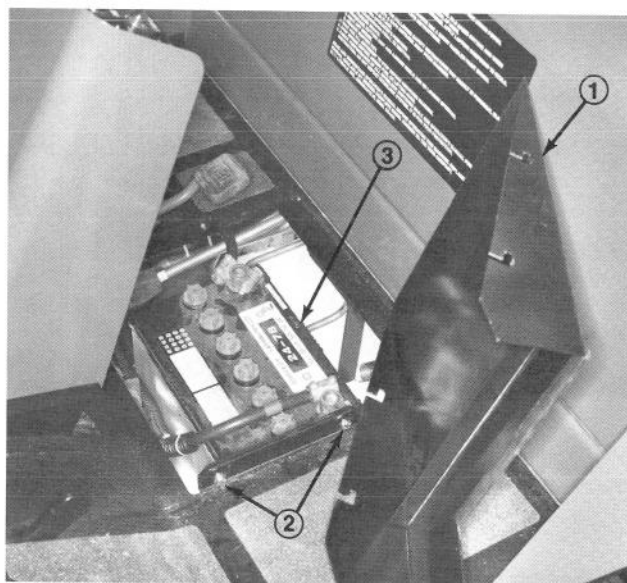

Figure 41
1. Loosen capscrews securing battery cover (Fig. 41).